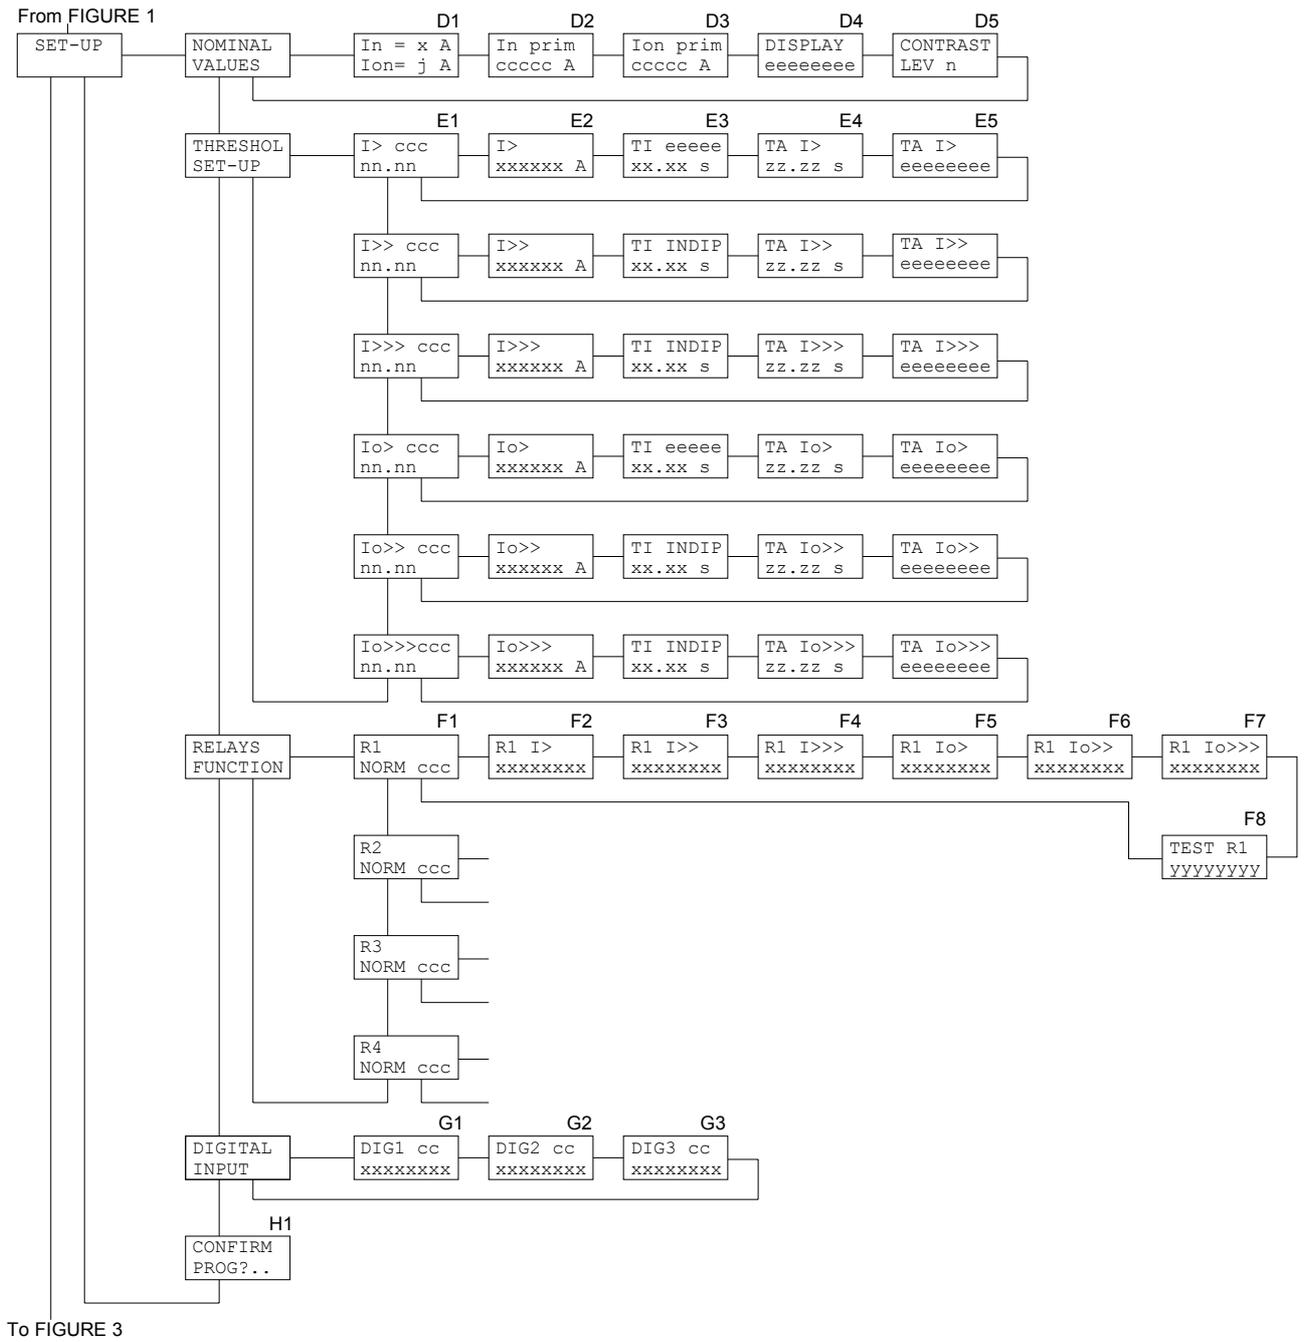

Figure 2
- 5) **CONFIRM** the new protection relay set-up at the visualization CONFIRM PROG? (Fig. 2, ref. H1) within 5 minutes depressing the push-buttons buttons [ENTER],  up to visualize **YES** and [ENTER] again to confirm.
When the output relays test is selected (Fig. 2, ref. F8) it is possible to command an output relay (one at the time) to trip from the current status allowing functional tests on electrical plants.
**5.5 Nominal values set-up (fig. 2)**